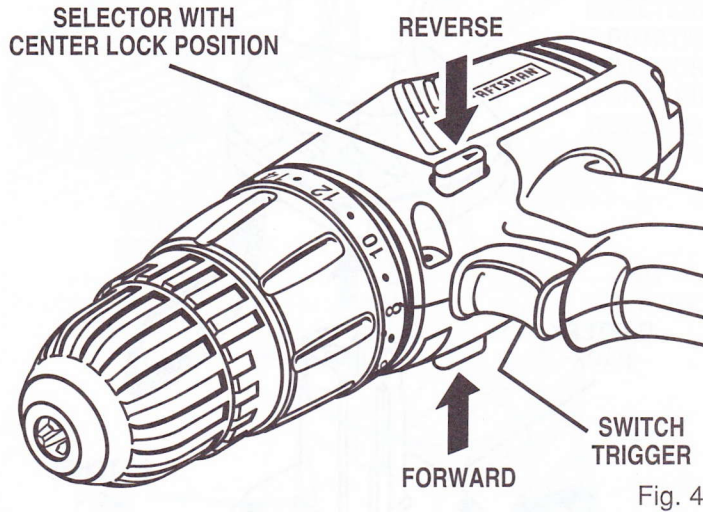

Fig. 4
- Lock switch trigger on your drill by placing the direction of rotation selector in center position. See Figure 4.
See Figure 4.
- Lock the switch trigger by placing the direction of rotation selector in center position. See Figure 4.